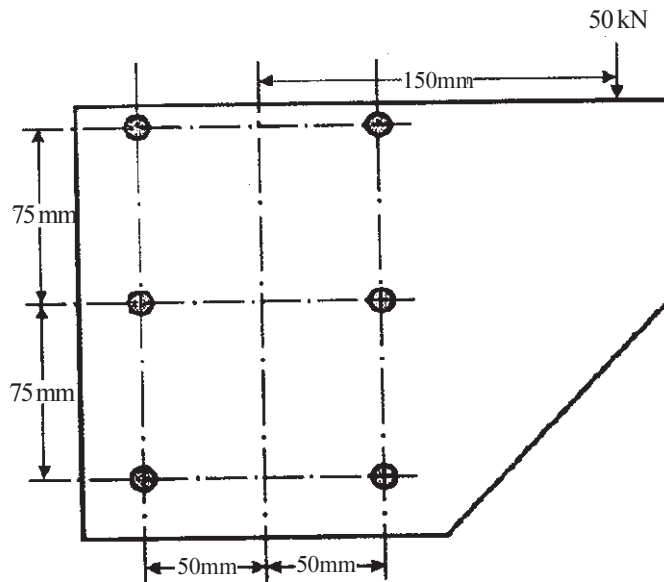

Fig.1
- Q6)** A bracket is bolted to column by 6 bolts of equal size as shown in fig.1. It carries a load of 50kN at the distance of 150mm from the centre of column. If the maximum stress in the bolts is to be limited to 150N/mm². Determine the core diameter of bolts. [16]